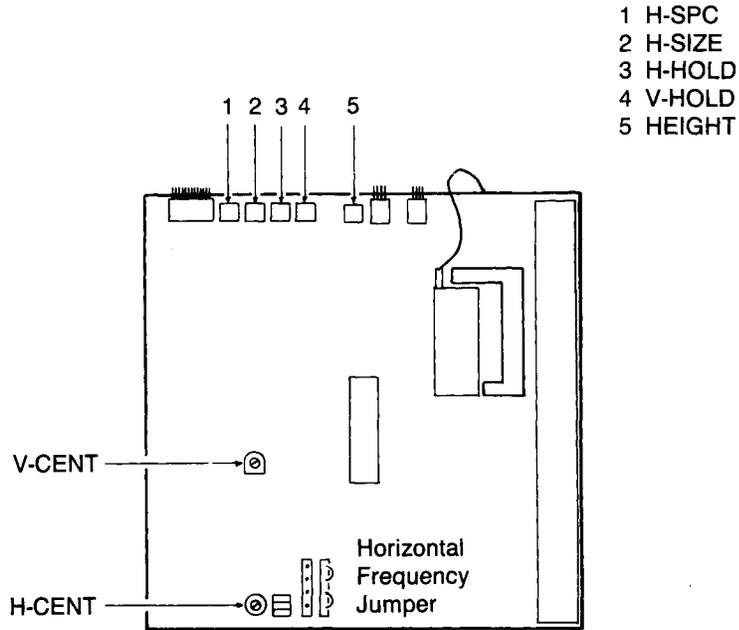
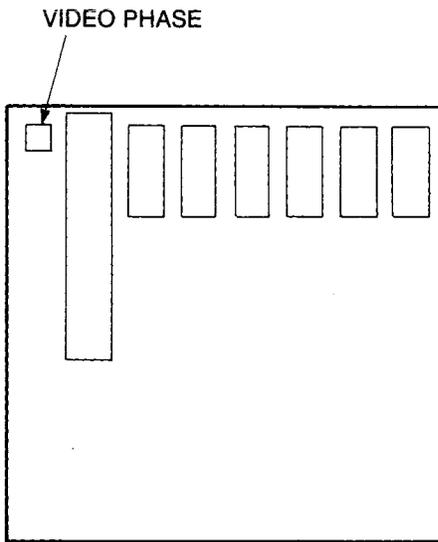

Fig. 10-7. Video Board Adjustment Locations
Fig. 10-9. Deflection Board Adjustment Locations
1. Move the Horizontal Frequency Jumper on the video board to the appropriate position for the desired Display Mode (Fig. 10-7). The position marked SL1 is used for 33 Hz operation; the SL2 position is for 60 Hz.
3. On the video board, adjust the H-HOLD control to obtain horizontal stability. (See Fig. 10-7.) Then adjust the VIDEO PHASE control on the deflection board to bring the complete display back onto the screen (See Fig. 10-9).
4. Returning to the video board, adjust the H-CENT control to finish centering the display horizontally (Fig. 10-7).
5. Adjust the H-SPC control (Fig. 10-7) to eliminate jagged or bowed edges on the displayed image.
6. Adjust the V-CENT control as necessary to center the display vertically (Fig. 10-7).
7. Adjust the HEIGHT control (Fig. 10-7) to obtain the correct display size and ratio.